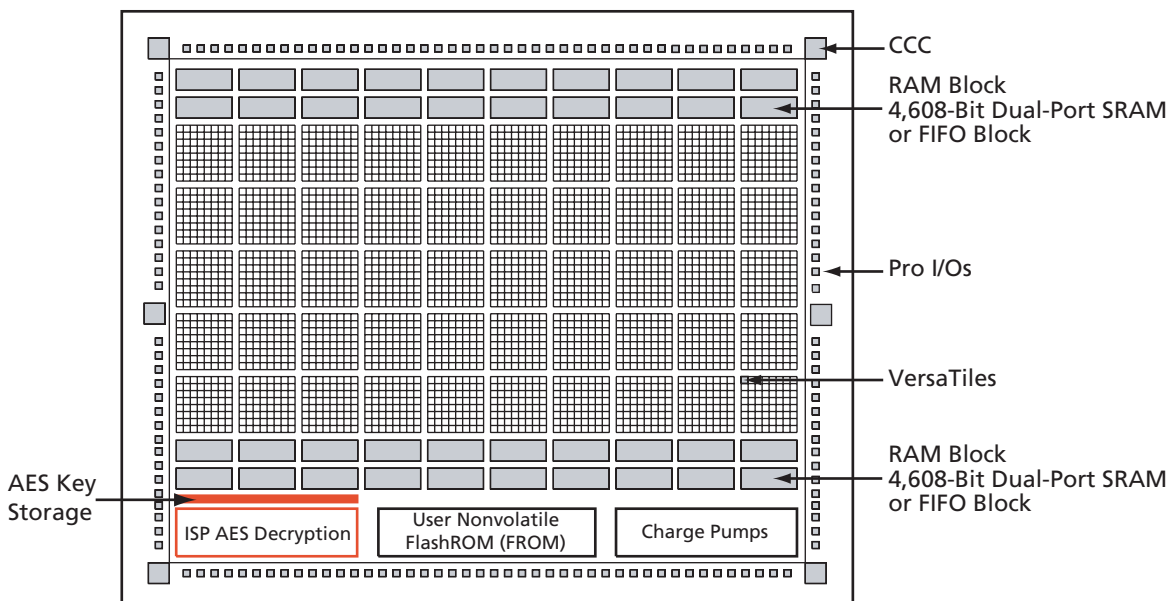

Figure 1 • AES Decryption Core inside the ProASIC3/E FPGA (graphical representation only)
ProASIC3/E devices have been designed with the most comprehensive programming logic design security in the industry. In the architecture of ProASIC3/E devices, security has been designed into the fabric of ProASIC3/E devices. The Flash cells are located beneath seven metal layers and the use of many device design and layout techniques makes invasive attacks difficult. Since device layers cannot be removed without disturbing the charge on the programmed (or erased) Flash gates, devices cannot be easily deconstructed to decode the design. ProASIC3/E is unique in being reprogrammable and having inherent resistance to both invasive and noninvasive attacks on valuable intellectual property (IP). Secure remote in-system programming (ISP) is now possible with AES encryption capability for the programming file during electronic transfer. **Figure 1** shows a view of the AES decryption core inside ProASIC3/E devices. The AES decryption core is used to decrypt the encrypted programming file when programming.